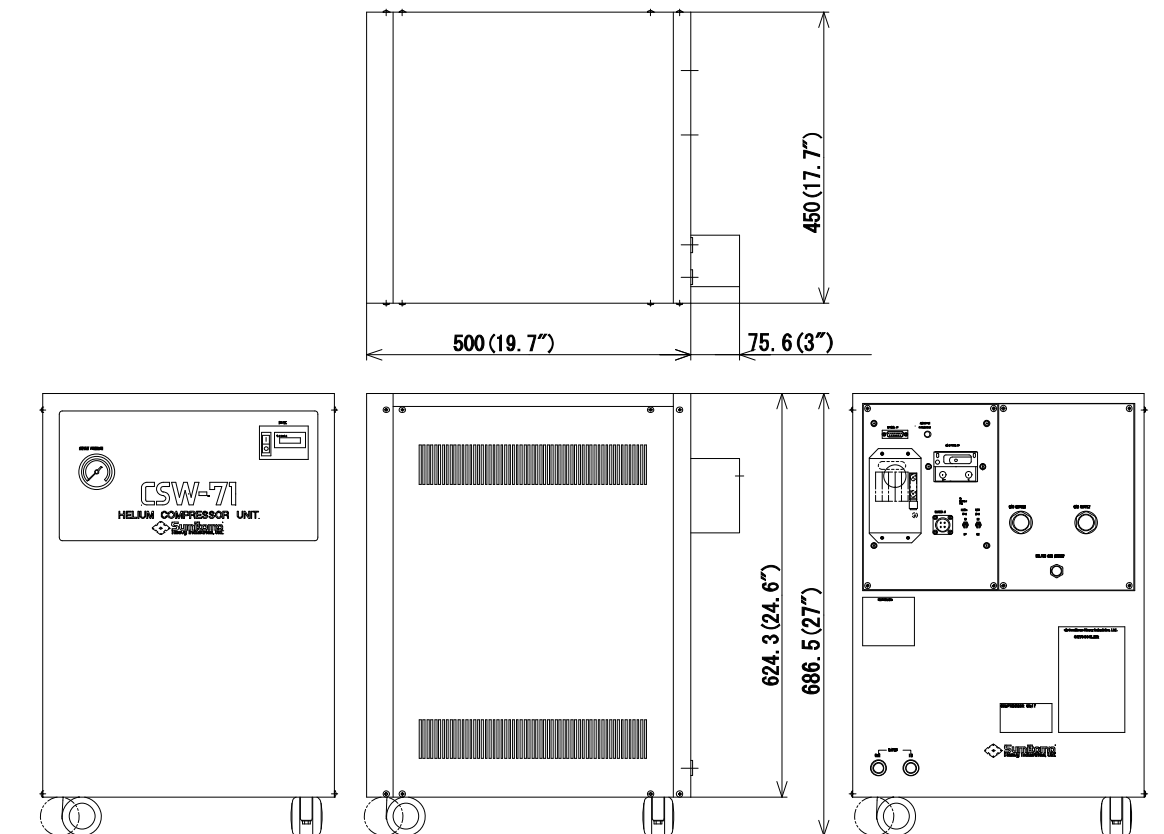

Figure 1.2 OUTLINE VIEW FOR COMPRESSOR UNIT MODEL CSW-71C
* Input Power Cable Terminal Cover is 98.0 mm (3.9'). See the **Figure 1.2**.